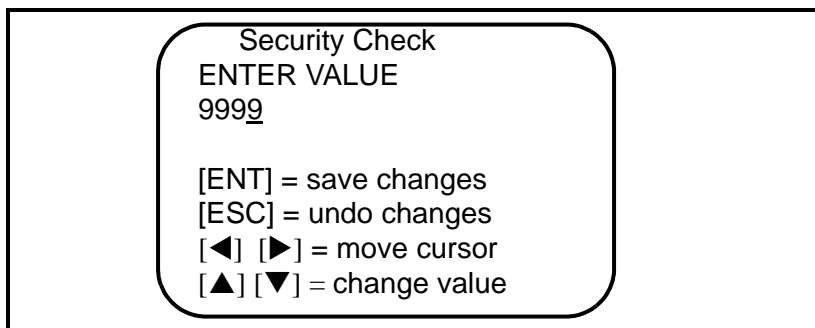

Figure 3: Security Check Window
1. Press [ESC], [ENT], [ESC]. A Security Check window, similar to *Figure 3* below, opens.